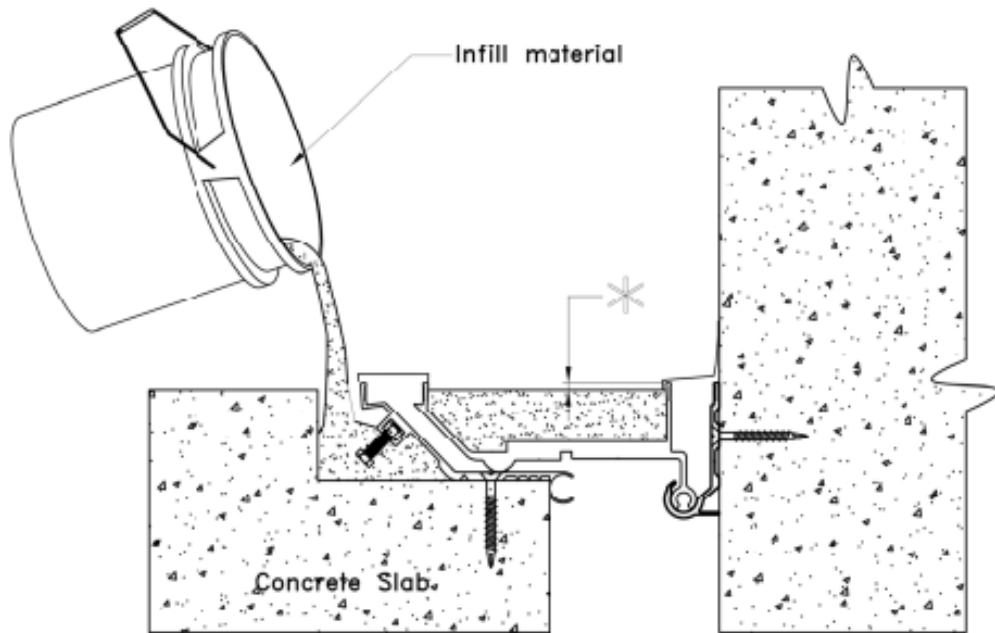

FIGURE 11
11. Pour infill material into blockout voids and pan cavity. * Warning! Leave required recess for finish floor finish material thickness and proper placement. **SEE FIGURE 11**